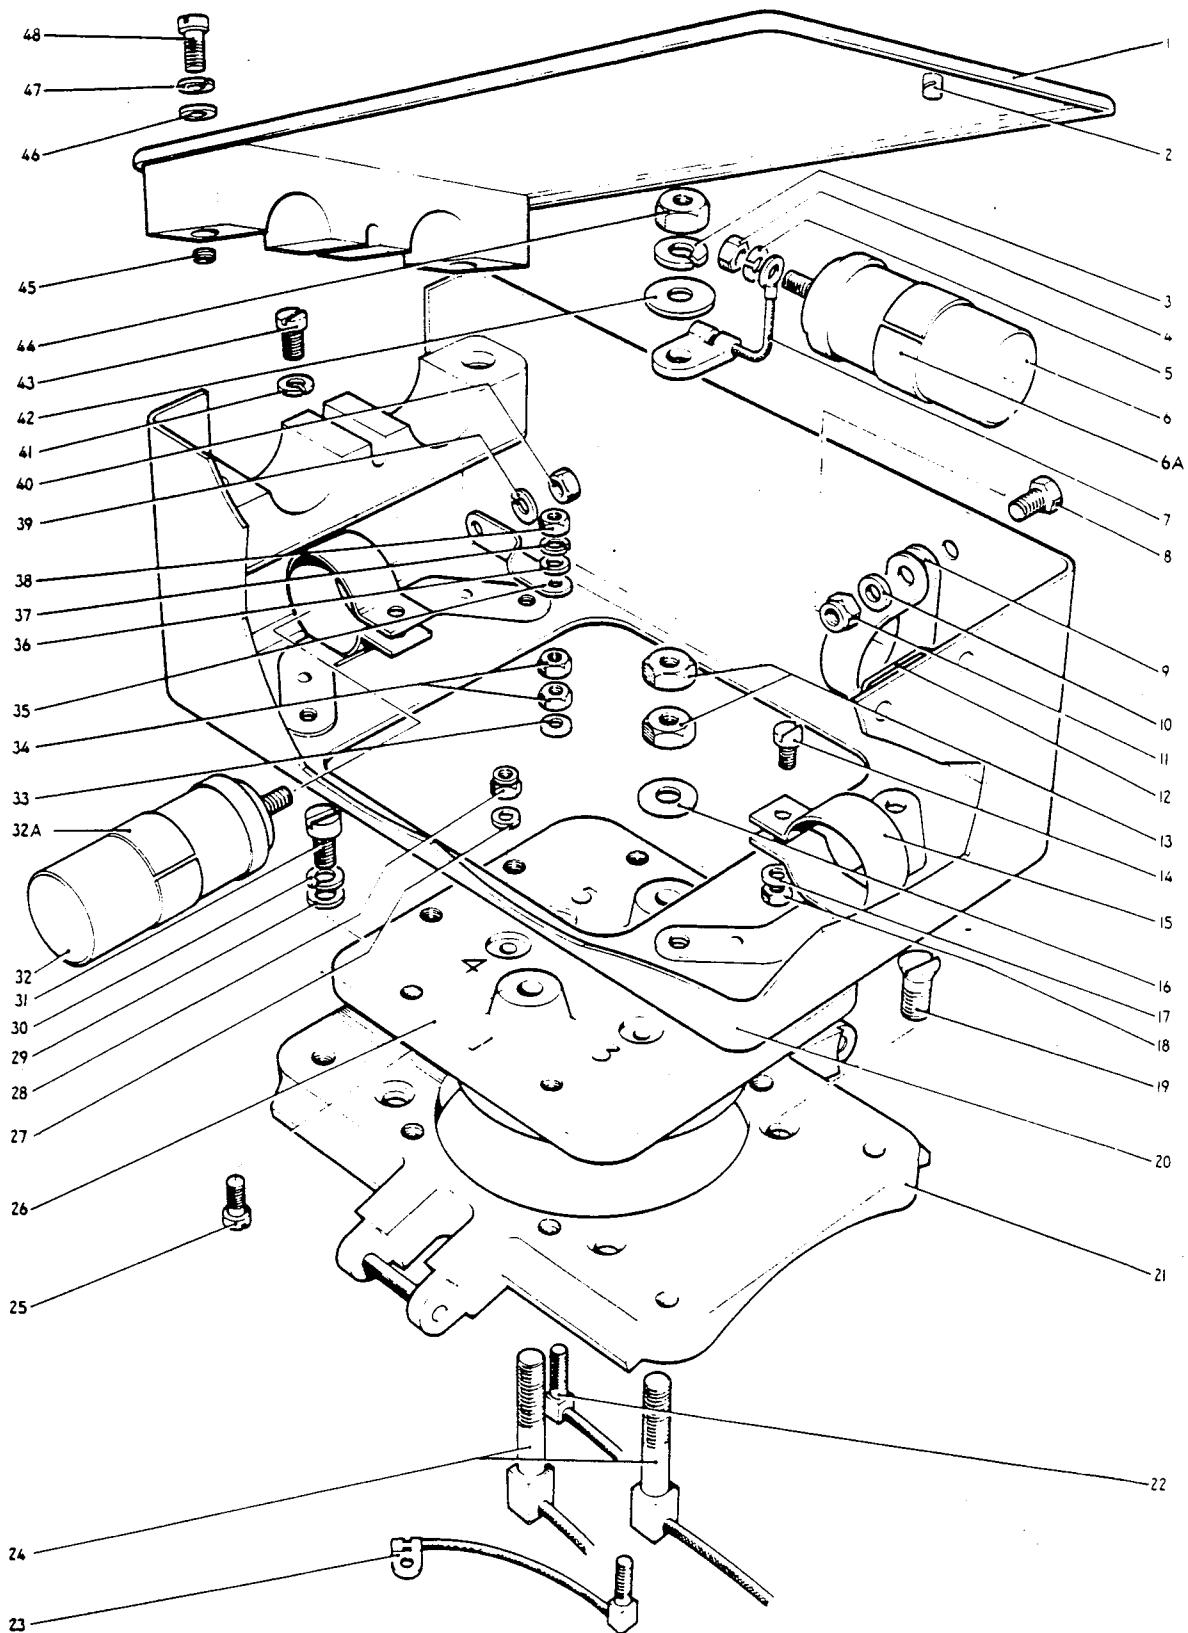

Fig.2 Generator terminal box - exploded view
10 Saddle assembly (see also fig.2, item 21)	24 Circlip
## Key to fig.2
## 4. Refer to fig.2 and proceed as follows: